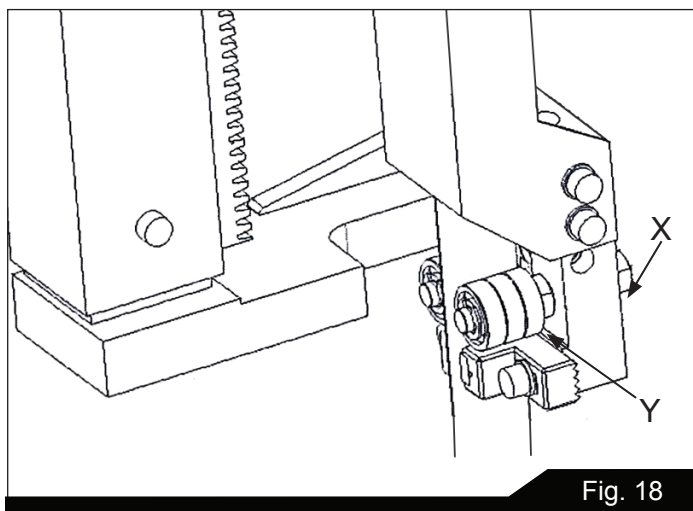

Fig. 18
Reference Figure 18.
For this procedure, "Left" and "Right" are based upon standing in front of the saw looking directly at the teeth of the saw blade. Similar to the angle shown in Fig. 18.
1. From the angle shown in Fig. 18, the guide to the left of the blade is on a concentric shaft. The guide to the right of the blade is on an eccentric shaft. The eccentric shaft (right) is the shaft that will be adjusted.
2. Loosen the lock nut (X, Fig. 18) with a 12 mm open end wrench while holding the adjuster with a 14 mm open end wrench.
3. Turn the adjuster (Y, Fig. 18) to adjust the bearing. The bearing should barely touch the blade (0.003"). This clearance can be measured with a piece of thin paper which should just fit into the gap between the bearing and the blade.
4. Tighten the lock nut (X, Fig. 18).